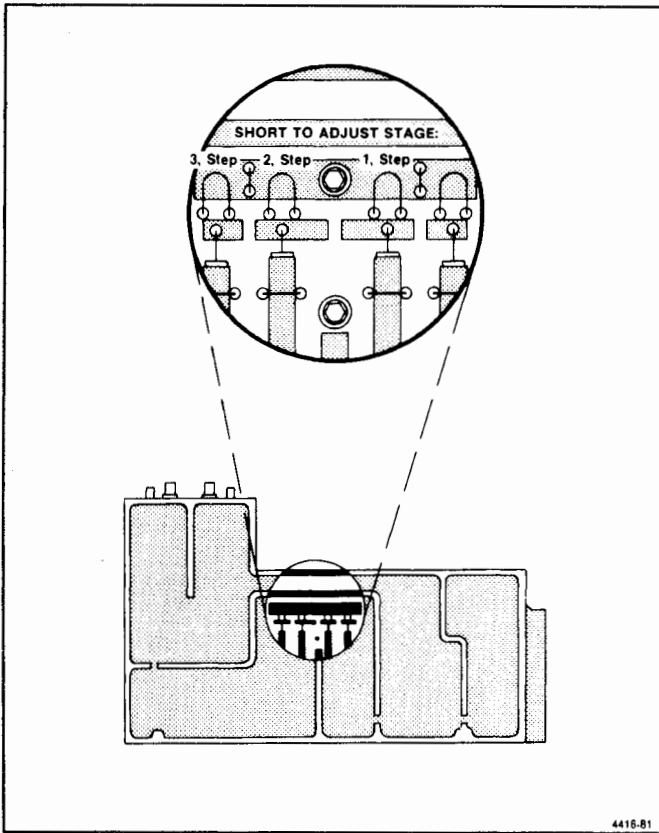

Figure 6-15. 829 MHz Converter filter tune tabs.
f. Adjust the  $1/4$  wavelength lines in the filter in sequence, starting with the resonator at the 829 1 MHz input (see Figure 6-15). Adjustment is made by shorting the adjacent resonator to ground with a low inductance conductor, such as a broad blade screwdriver, then bend the loop or tab of the respective stub with a non-metallic tuning tool to change the series capacitance of the resonator.